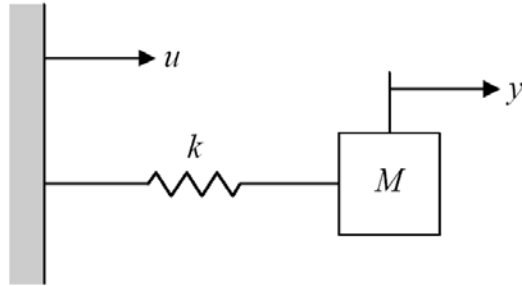

Figure 7.97: [Text Fig. 7.97] Simple robotic arm for Problem 7.51.
51. A simplified model for the control of a flexible robotic arm is shown in Fig. 7.97, where